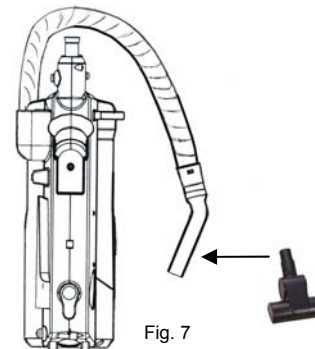

Fig. 7
1. Remove the flexible hose from the hose connector. (Fig. 7)